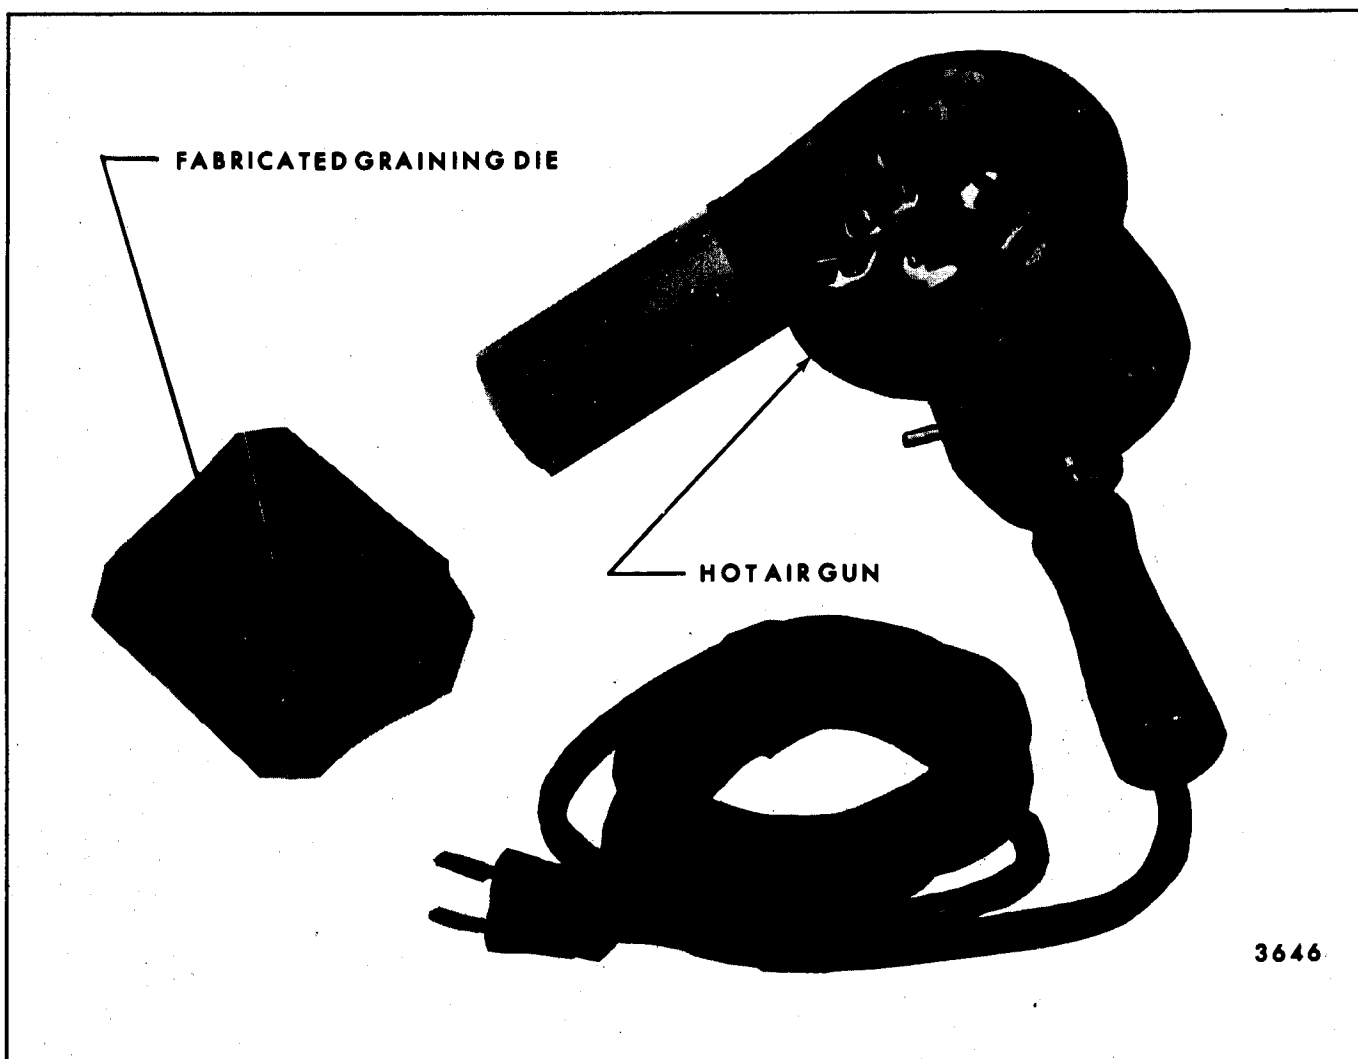

Fig. 11-14-Fabric Roof Cover Repair Die and Hot Air Gun
2. Repair utilizing a fabricated plastic body filler graining die and a heat gun, Fig. 11-14.
1. Plastic body filler and hardener - a two-part material for fabricating a graining die with an impression of the grain present in the vinyl surface of the fabric roof cover (see Fig. 11-14).
7. Heat Gun - used to cure vinyl patching compound, preferably 500 degrees to 700 degrees heat range (Fig. 11-14).